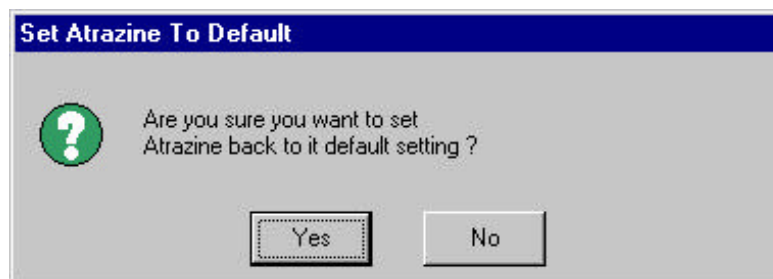

Figure 14.56
- c. A prompt box will appear (Figure 14.56).